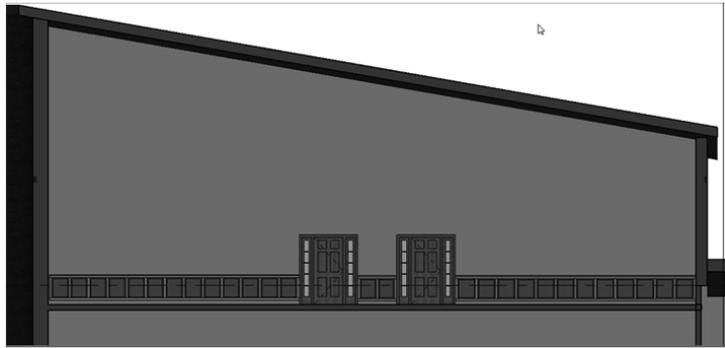

FIGURE 10.78: The finished raised-panel, line-based family
- Change Visual Style to Realistic. Your elevation should look like Figure 10.78.
13. Place the concrete at the points shown in Figure 10.78.